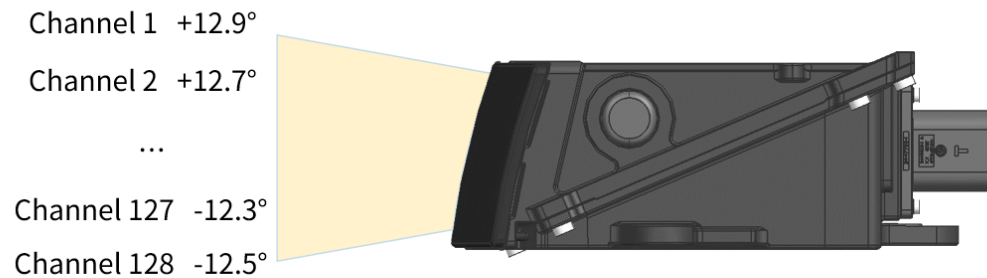

Figure 4. Channel vertical distribution
- The designed vertical resolution is 0.2° across the FOV, as shown in Figure 4, “Channel vertical distribution” and detailed in Appendix A, Channel distribution data.